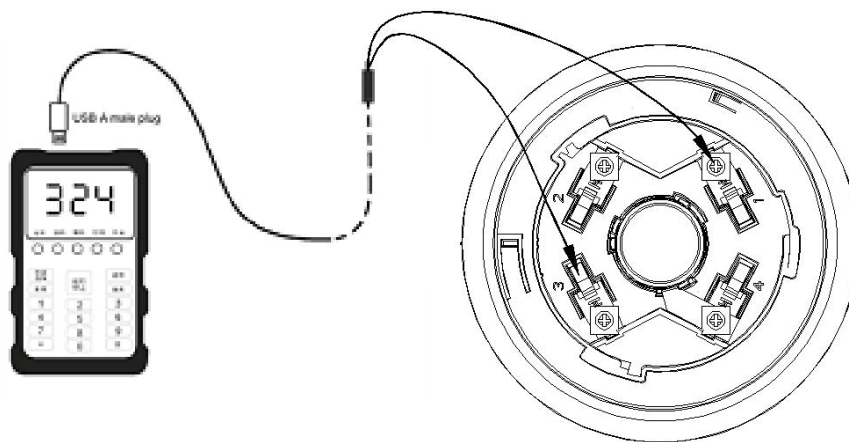

Fig .3
- 2. CODING ADDRESS:** The Addressable Sounder Beacon Base must be encoded address by a special coder (CODER-F900E) installation. Fig .3 shows the wiring diagram of the Sounder Strobe Base and coder. After wiring, press “#” key to select “324” mode, set the coder with the coding function, then select the correct address number and press the “RUN/STOP” key to complete the address code setup.